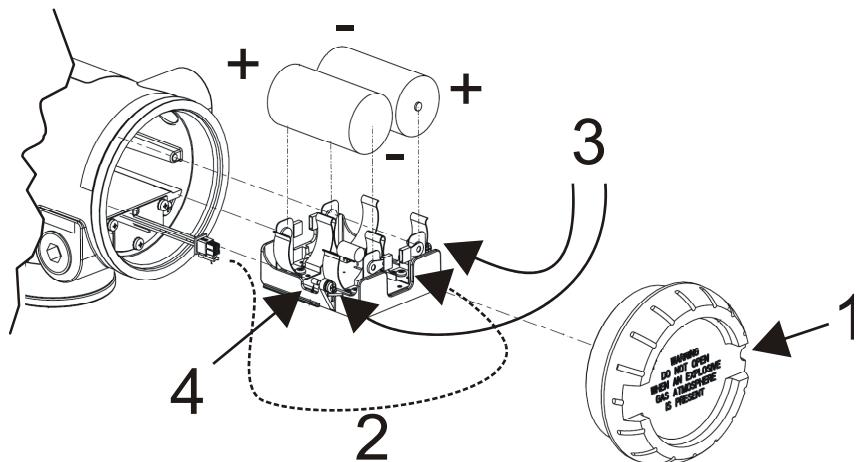

Figure 10 Battery replacement
1	Loosen the M3 locking set screw on the battery end-cap (opposite end from display). See item 1 in Figure 10. Unscrew and remove the end cap.
2	Using thumb and forefinger, squeeze the battery connector at top and bottom to disengage the locking mechanism, then pull to disconnect. See item 2 in Figure 10.
3	Loosen the two battery holder retaining screws (closest to the batteries). See item 3 in Figure 10. The screws are captive.
5	Remove the old batteries from the battery holder. If needed, pry out the batteries by using a slotted screwdriver as a lever in the holder's side slots. See item 4 in Figure 10.